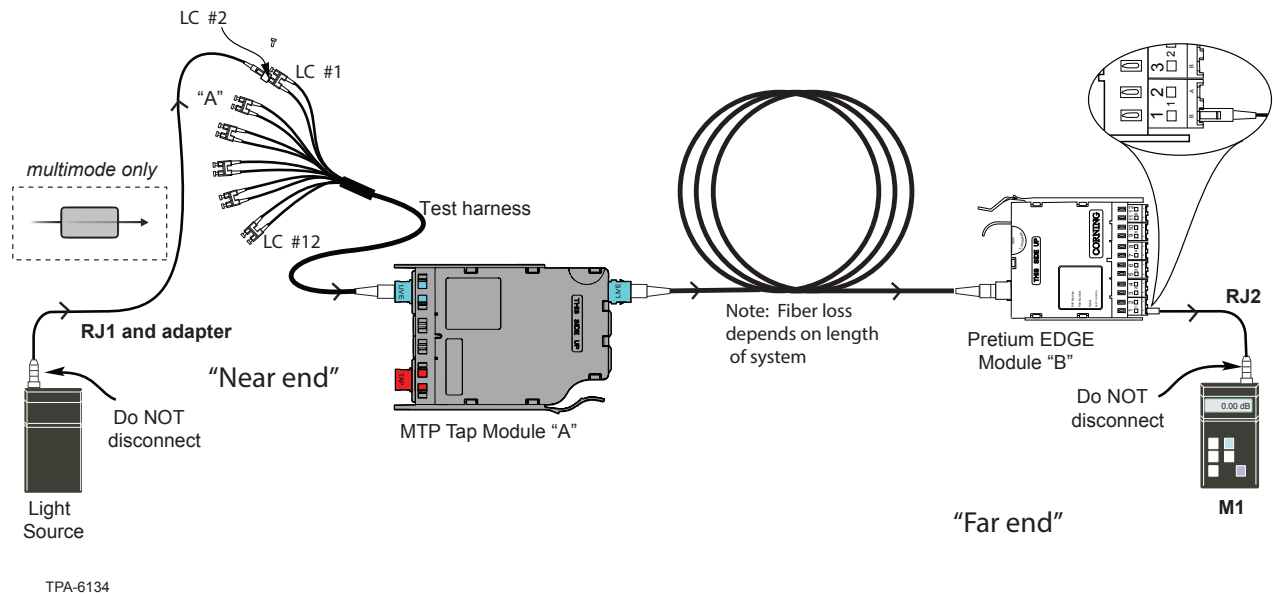

Figure 10
8.3. Table 2 provides a complete guide to the test sequence with a light source at the MTP Tap module “A” (“Near end”) and a meter at Module “B”, or the “Far end” of the system shown in Figure 10.
8.4 To begin testing the Live Portion of the MTP Tap module (Figure 10):
Step 2: Install **RJ2’s LC connector** into the number 1 port of the Edge module (Module “B” in Figure 10).